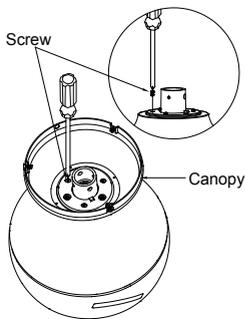

Fig. 6
**Step 3.** Remove the three motor coupling screws from ceiling fan and retain the canopy for later use. Reinstall the removed screws back to the ceiling fan. (Fig. 6)